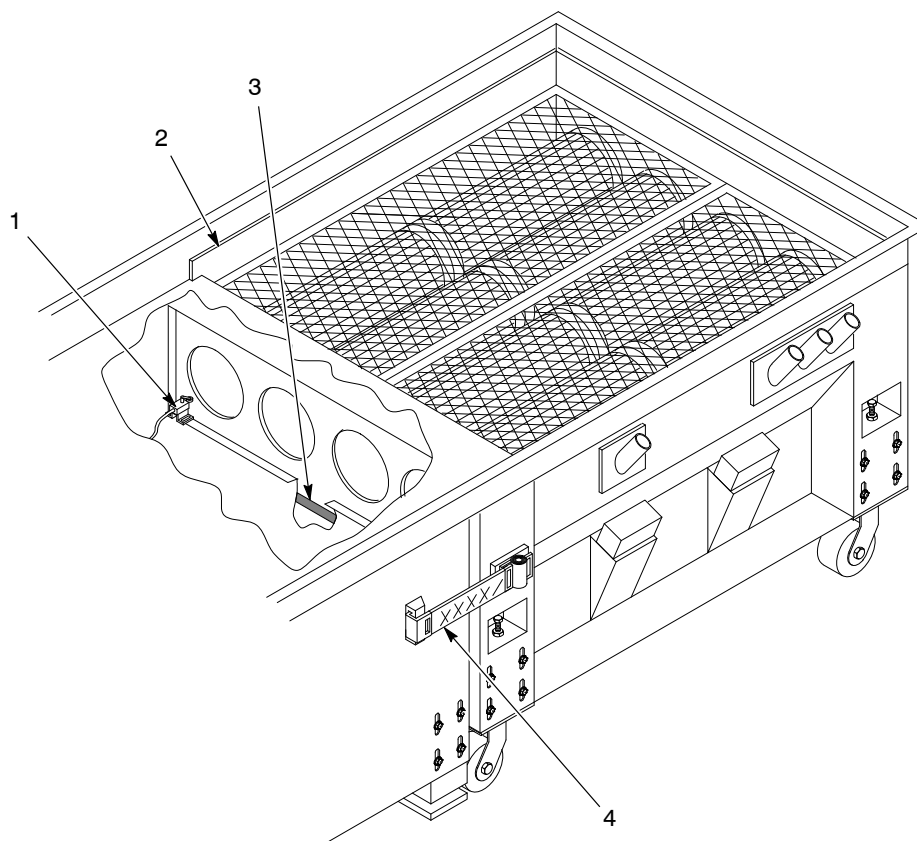

Figure 3-2 Color Module Seals and Limit Switch (Horizon 400 Shown)
1. See Figure 3-2. Make sure the color module is sealed tight against the fan compartment. When the D-gasket (3) is properly compressed, the gap between the end of the color module and the fan compartment should be 19 mm (0.75 in.) wide. Tighten the clamping straps (4) if necessary.